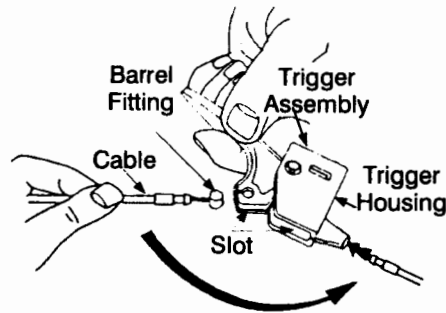

FIGURE 17
- Place the barrel fitting into the hole in the trigger. Pull on the cable and rotate it around the bottom of the trigger, with the inner cable in the slot, until the cable end can be pushed into the trigger housing and snapped tight. See Figure 17.